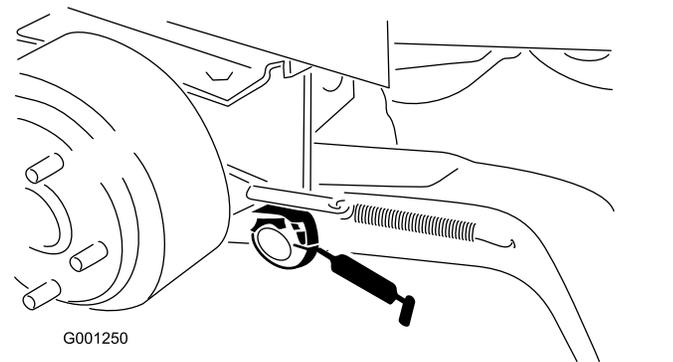

Figure 37
- Lift-arm pivot bushings (Figure 37)